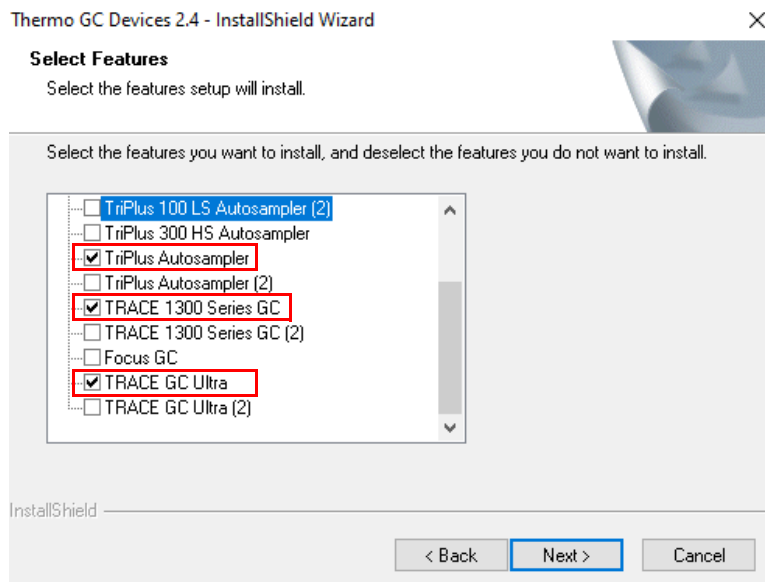
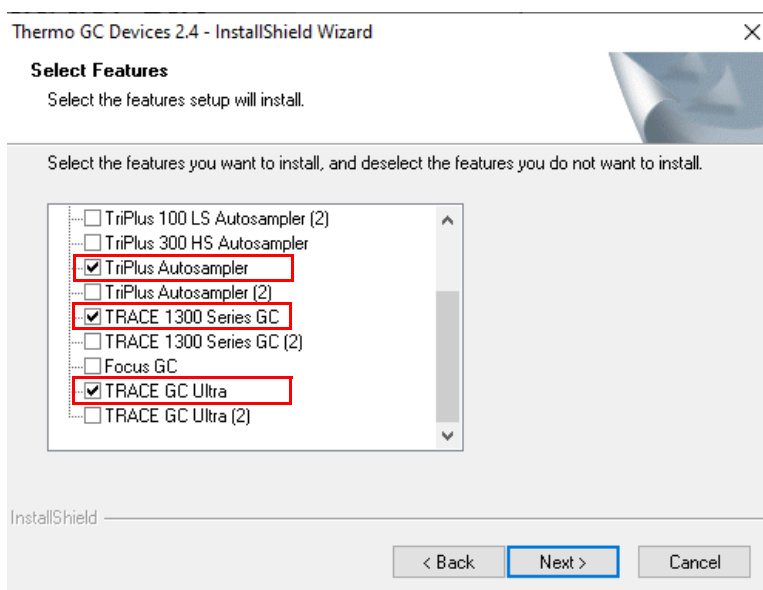

Figure 4-21. Select devices
Figure 4-23. Select Features (lower part)
11. In the next upcoming dialog called **Select Features** (see Figure 4-21 - Figure 4-23), clear the check boxes for all devices listed with (2), and also clear the following devices that are not supported in Isodat anymore: